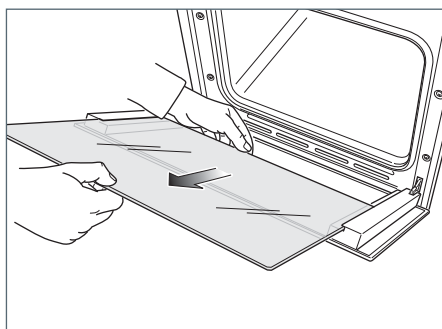

Fig. 59e
- Gently pull out the inner pane of glass (Fig. 59e).